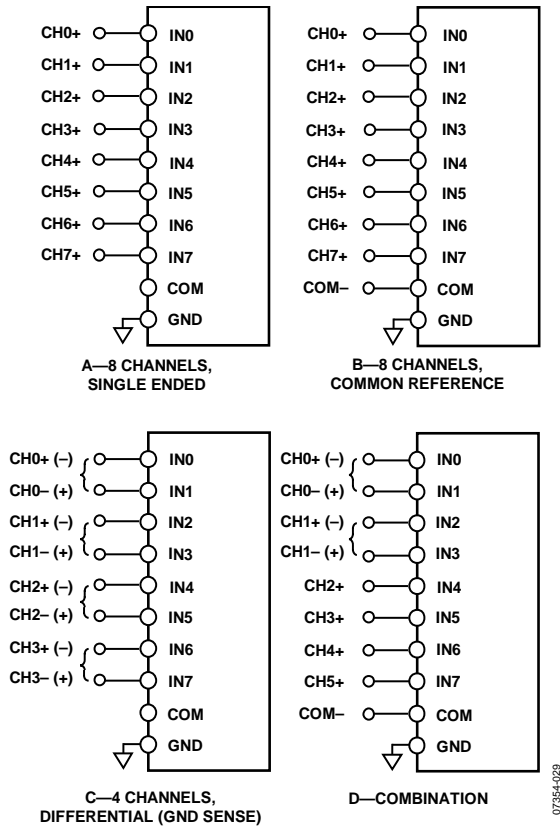

Figure 33. Multiplexed Analog Input Configurations
Figure 33 shows the different methods for configuring the analog inputs with the configuration register (CFG[12:10]). Refer to the Configuration Register, CFG section for more details.
- Configuration A in Figure 33: single-ended referenced to system ground;  $CFG[12:10] = 111_2$ .
- Configuration B in Figure 33: bipolar differential with a common reference point;  $COM = V_{REF}/2$ ;  $CFG[12:10] = 010_2$ . Unipolar differential with COM connected to a ground sense;  $CFG[12:10] = 110_2$ .
- Configuration C in Figure 33: bipolar differential pairs with  $IN_{x-}$  referenced to  $V_{REF}/2$ ;  $CFG[12:10] = 00X_2$ . Unipolar differential pairs with  $IN_{x-}$  referenced to a ground sense;  $CFG[12:10] = 10X_2$ . In this configuration, the  $IN_{x+}$  is identified by the channel in  $CFG[9:7]$ . For example, for  $IN_0 = IN_{1+}$  and  $IN_1 = IN_{1-}$ ,  $CFG[9:7] = 000_2$ ; for  $IN_1 = IN_{1+}$  and  $IN_0 = IN_{1-}$ ,  $CFG[9:7] = 001_2$ .
- Configuration D in Figure 33: inputs configured in any of the above combinations (showing that the AD7699 can be configured dynamically).